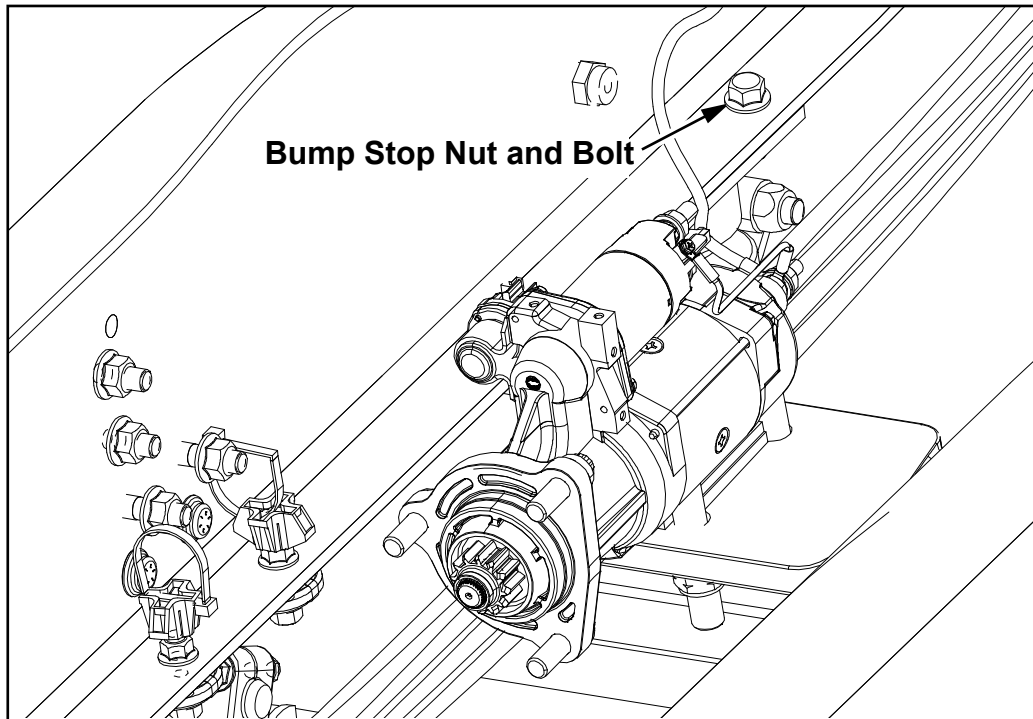

Figure 6
11. Install the FE410150AW15 bolt and the FE286250BW01 nut in the orientation shown and torque to 105 lb.-ft (see Figure 6).